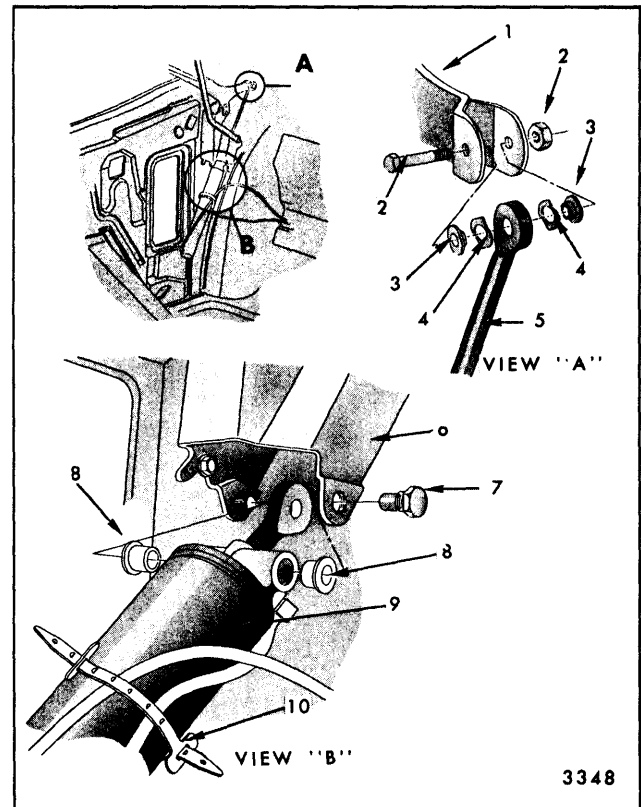

Fig. 13-69—Folding Top Lift Cylinder Attachment
7. Remove inner and outer bolt securing cylinder to male hinge (Fig. 13-69).